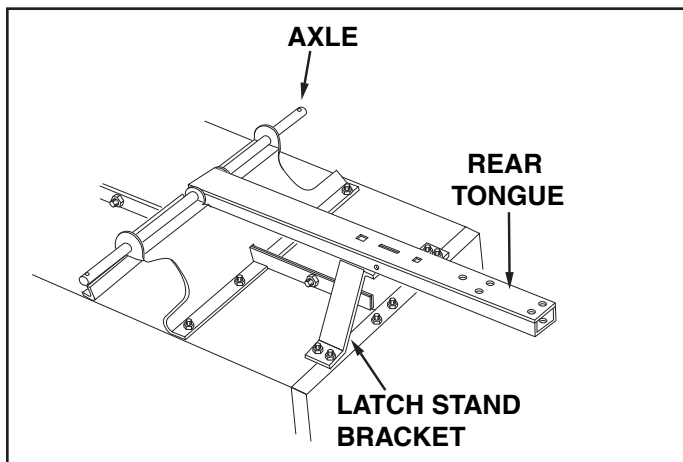

FIGURE 9
15. To prevent accidental tipping during the following assembly procedures, lower the cart to rest upside down on its top flanges, so that the wheel support is facing up. See figure 9.
16. Lay the drawbar tongue onto the Wheel Support and the Latch Stand Bracket. Assemble the axle through the wheel support and the tongue. See figure 9.